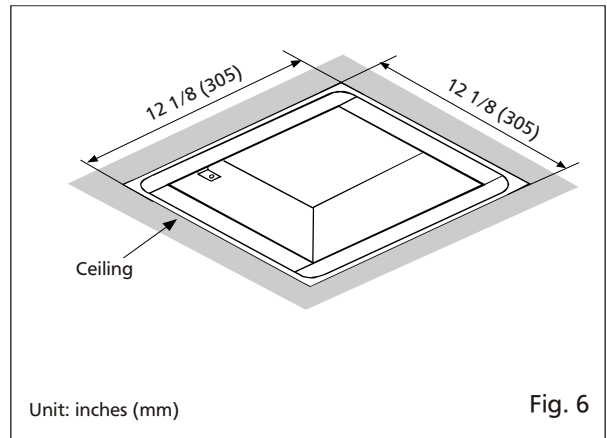

Fig. 6
8. Finish ceiling work. Ceiling hole should be aligned with the edge of the flange. (Fig.6)
9. Follow the Fig.12-3,12-4(page 9) and the Fig.6,7 (page 8) of the original installation instruction to complete the Motor/Light Kit/Grille Assembly installation.
- (2) Inspect duct work and wiring before proceeding with installation.
- (3) Plan suitable location for fan body. (next to ceiling joist)
- (4) Before installation, provide inspection and maintenance access at a location that will not interfere with installation work shown in installation II.
- (5) First, remove ceiling section according to Fig.6 of page 7.
- (6) Install fan body.
- (1) Inspect duct work and wiring before proceeding with installation.
- (2) Remove ceiling section according to Fig.6 of page 7.
- (3) Install fan body.